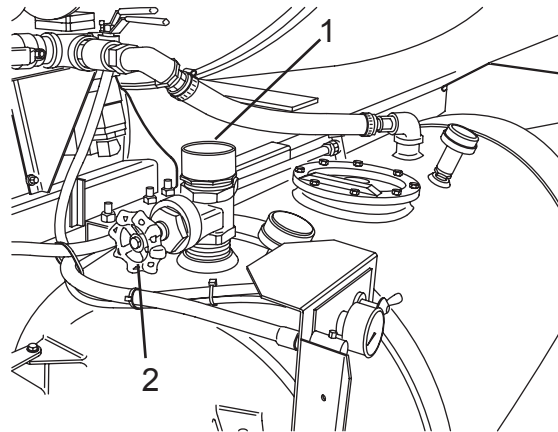

Figure 89
2. Open the chemical tank gate valve (Figure 89, Item 2) and fill the chemical through the inlet (Figure 89, Item 1).
3. Connect a water supply hose to the inlet (Figure 89, Item 1) and fill tank.